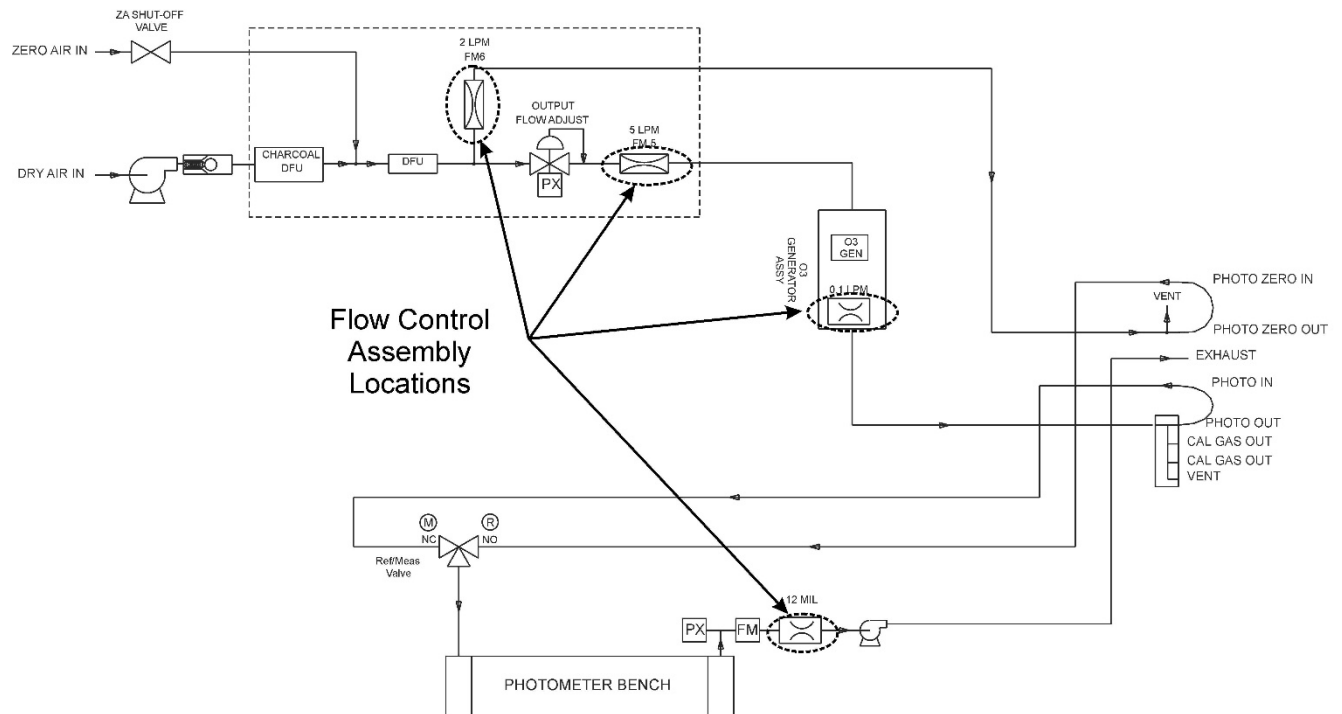
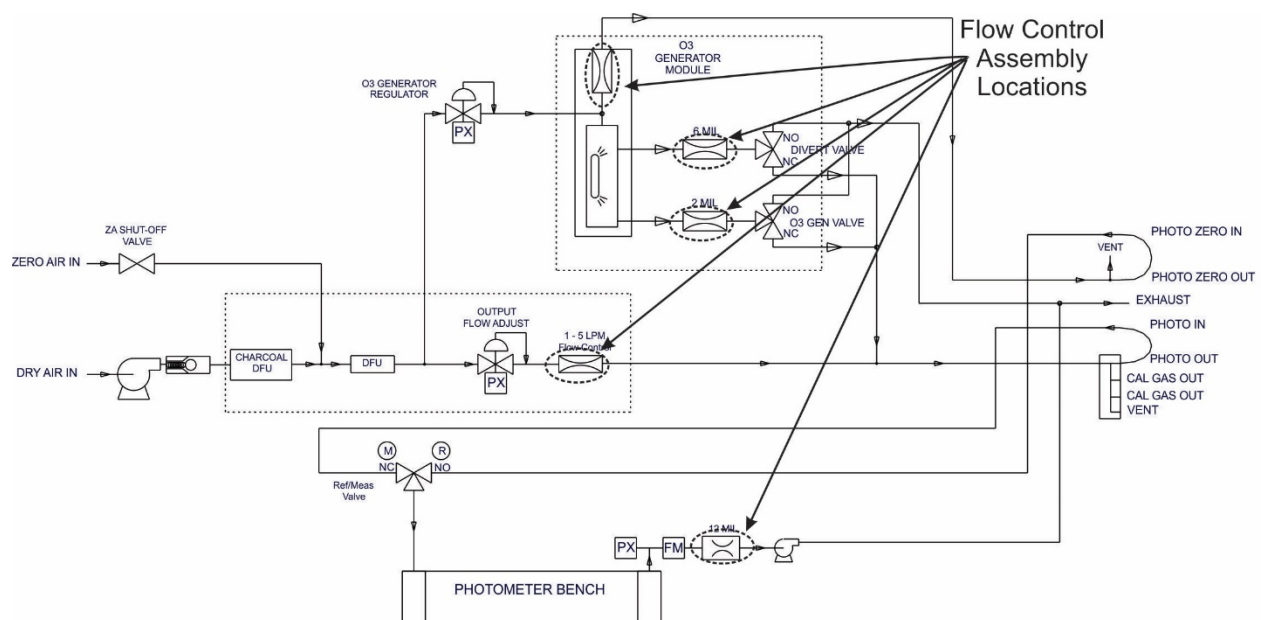

Figure 9-1. Location of Gas Flow Control Assemblies - T703
Figure 9-2: Location of Gas Flow Control Assemblies - T703U
2. Locate the assembly to be repaired, see Figure 9-1 (T703) or Figure 9-2 (T703U).